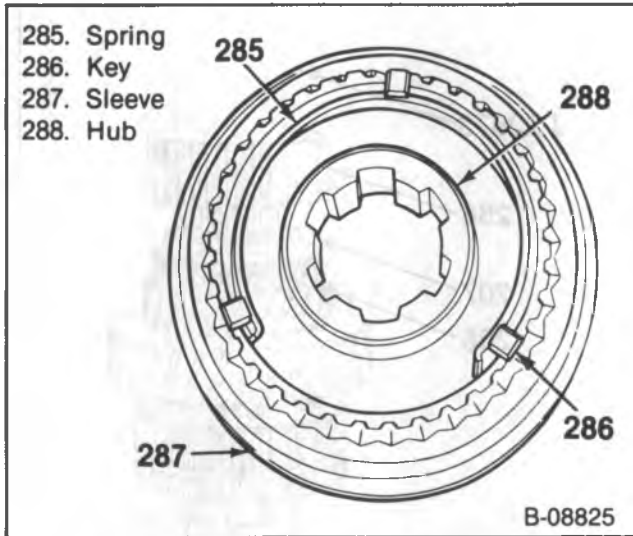

Figure 15 –Synchronizer Assembled
1. 3-4 synchronizer (205), (figure 15).